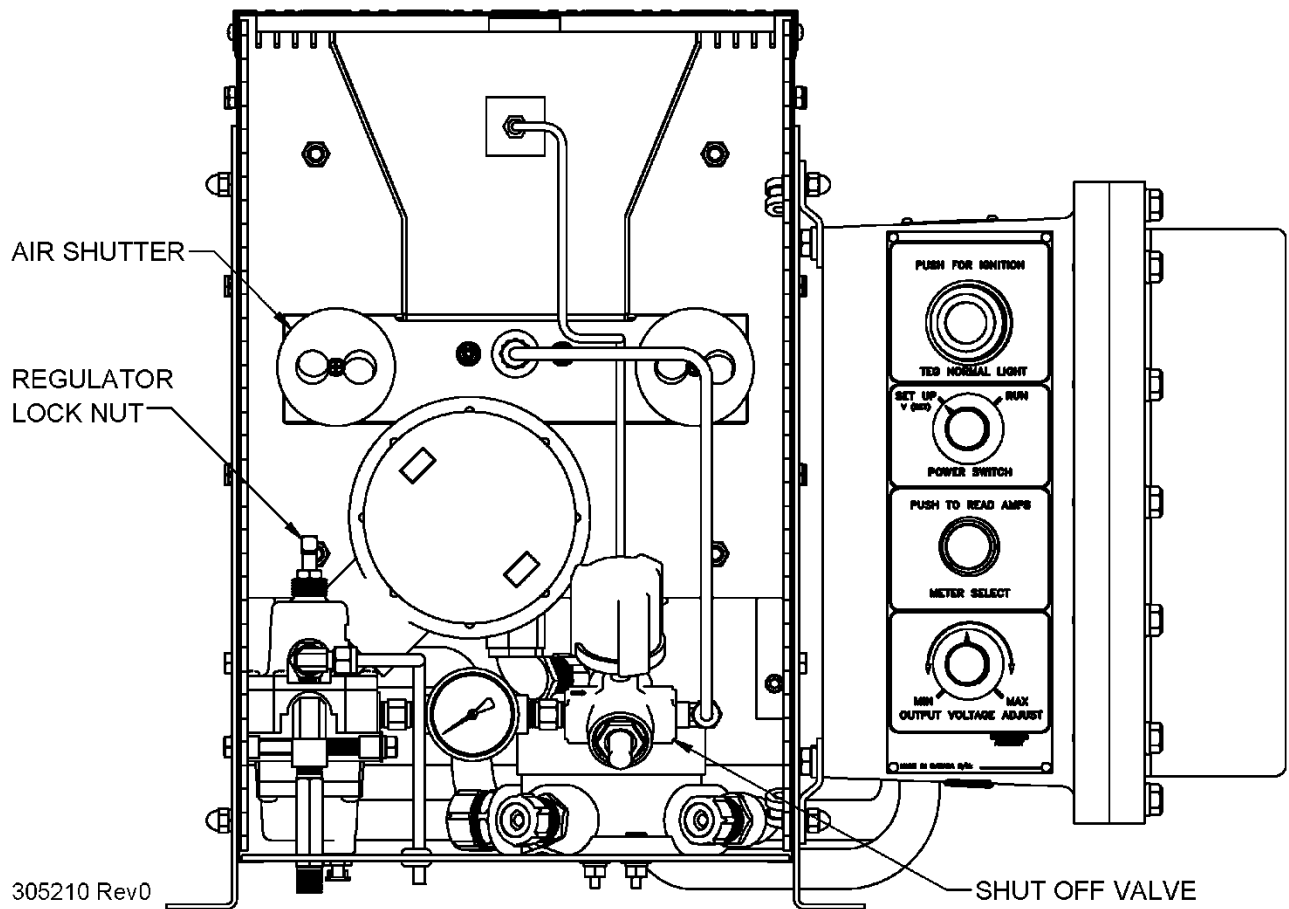
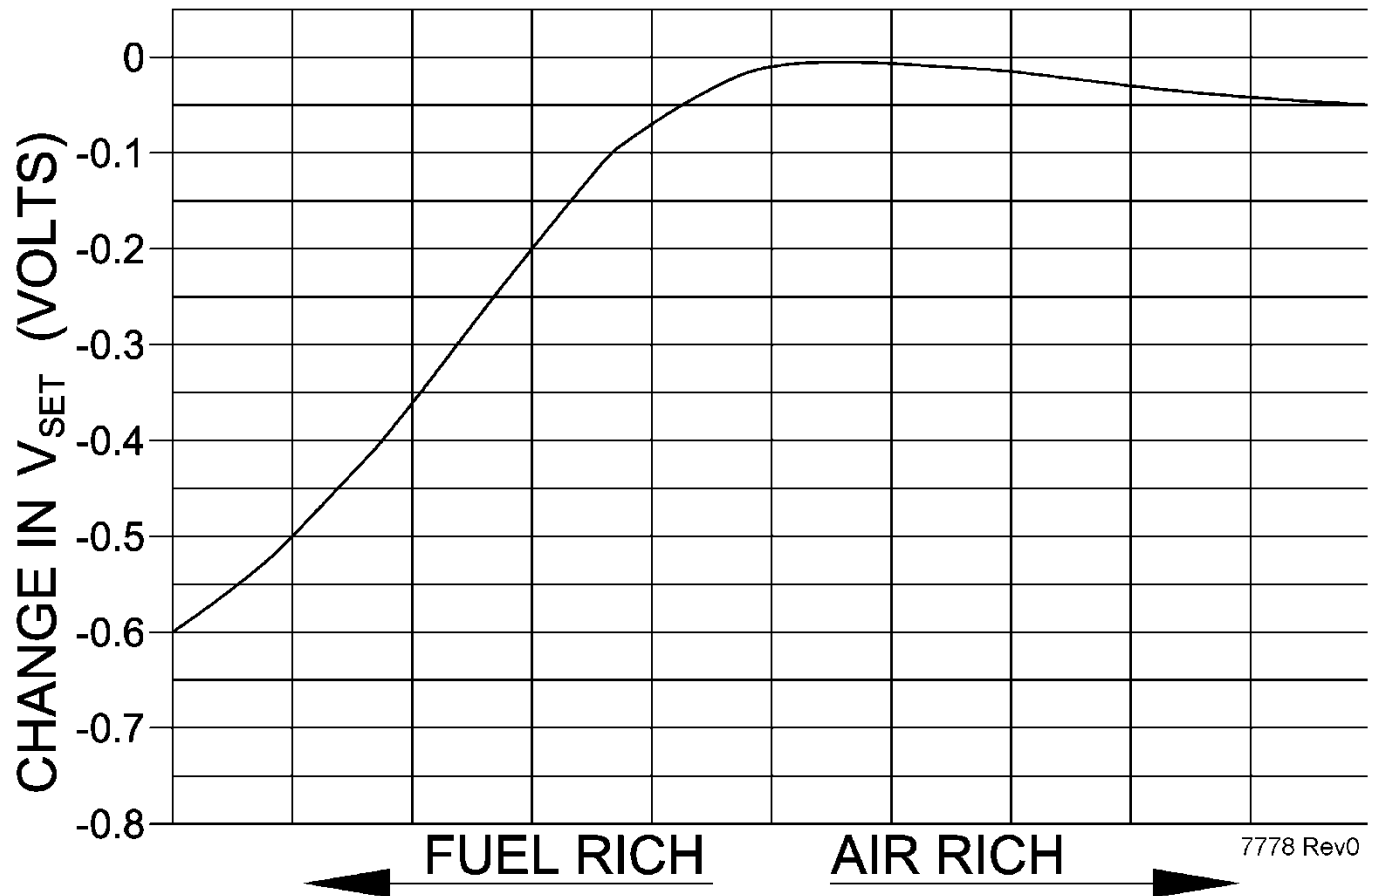

Figure 10 TEG Start Up
Figure 13 Change in V_{set} Versus Air Shutter Setting
Perform the following steps (see Figure 10):
- 3) If V_{set} is greater than 6.5 volts, the fuel pressure is set for more than rated power. Reduce the fuel pressure by 9.8 kPa (1.4 psi) at this time, see Figure 10 and Figure 13.
This burner contains dual air shutters which control the amount of air used for combustion. See Figure 10.
Figure 13 shows change in V_{set} as a function of air shutter settings. Observe that V_{set} decreases more rapidly on the fuel rich side than on the air rich side. For this reason a fuel rich operation is to be avoided.